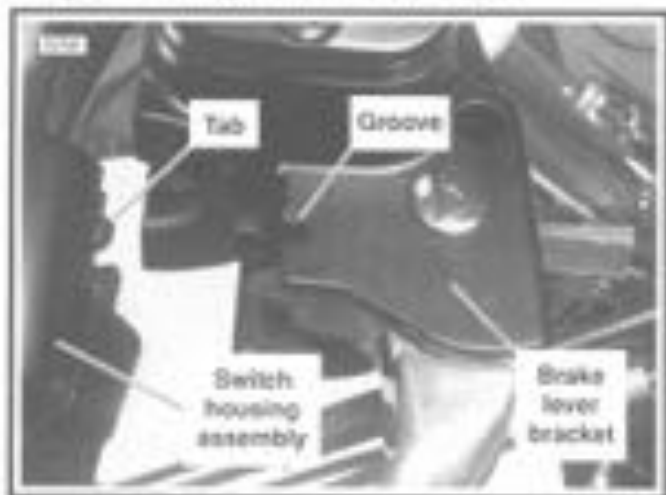

Figure 7-74. Fit Brake Lever/Master Cylinder to Right Handlebar Switch Housings
- See Figure 7-74. Position the brake lever/master cylinder assembly inboard of the switch housing assembly, engaging the tab on the lower switch bracket in the groove at the top of the brake lever bracket.